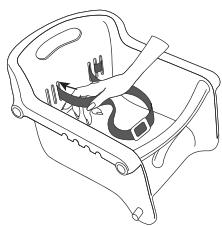

Figure 8
- Insert each end of the seatbelt into the innermost slots of the back of the seat. (See Figure 8)